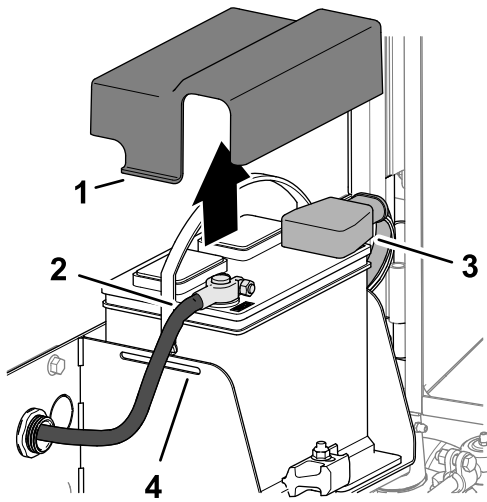

Figure 84
3. Press the sides of the battery cover, and remove the cover from the battery tray (Figure 84).